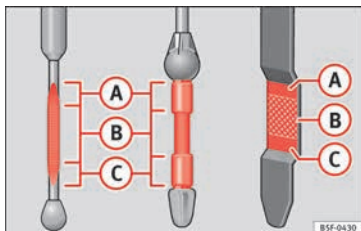

Fig. 235 Engine oil dipstick.
- Then pull it out once more and check the oil level » **Fig. 235**. Top up with engine oil if necessary.